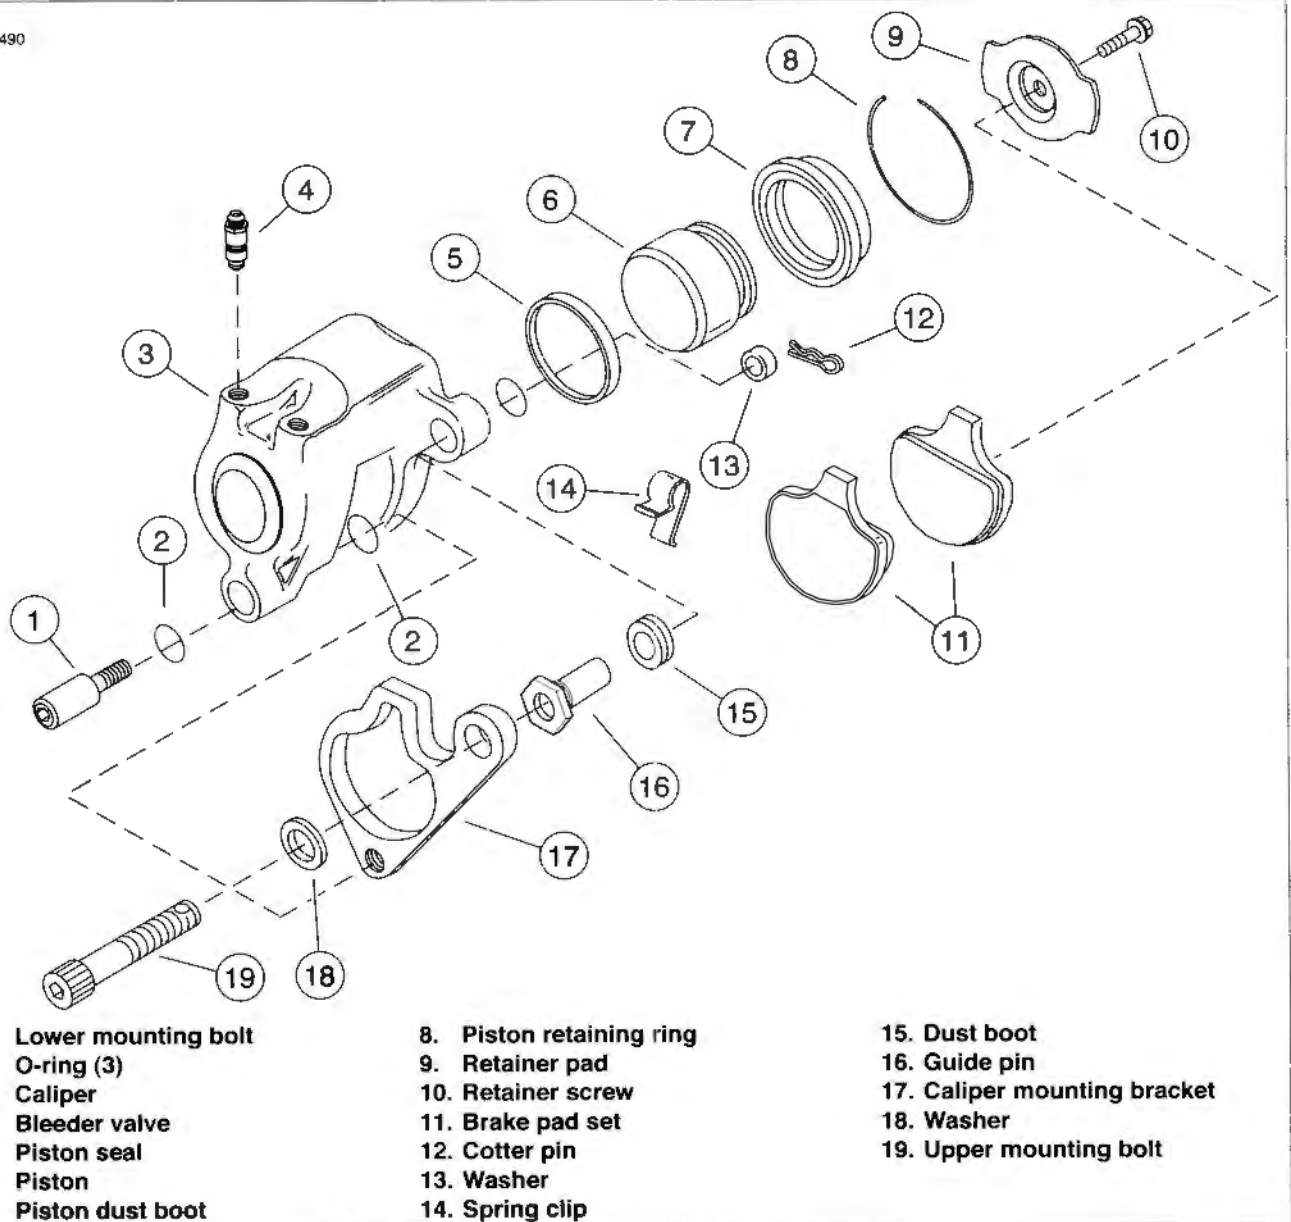

Figure 2-42. Caliper Assembly
- See Figure 2-42. Remove retainer screw (10), retainer pad (9) and inside pad of brake pad set (11).
- Remove the outer pad of brake pad set (11), mounting bracket (17) and spring clip (14) as an assembly. Remove pad from mounting bracket by pushing the pad free of the spring clip.
- Pry out the piston retaining ring (8) by inserting a small screwdriver into the notched groove at the bottom of the piston bore.
1. See Figure 2-42. Apply a thin coating of G.E. VERSILUBE® #G322 L SILICONE GREASE to the exterior surfaces of piston seal (5) and o-rings (2) in their respective grooves.
2. Push the piston dust boot (7), with the open side downward, over the top of the piston. Push downward on the boot until the inner lip seats in the groove at the top of the piston.
3. Coat the outside diameter and bottom chamfer of piston (6) with GE Silicone Versilube grease (G322L) and push the piston with dust boot into the piston bore. If necessary, press the piston in with a "C" clamp.
12. See Figure 2-42. Take the outer pad of the brake pad set (11) (with insulator backing) and place it on top of the spring clip with the lower end of the pad slightly entering the opening of the mounting plate. With the pad centered within the mounting plate and the insulated back facing downward, push down on the pad until it is against the flat surface and is held firmly by spring tension from the spring clip.
13. Insert the outer pad of the brake pad set (11), mounting bracket (17), and spring clip (14) assembly into place with the backside of the pad against the face of the piston.